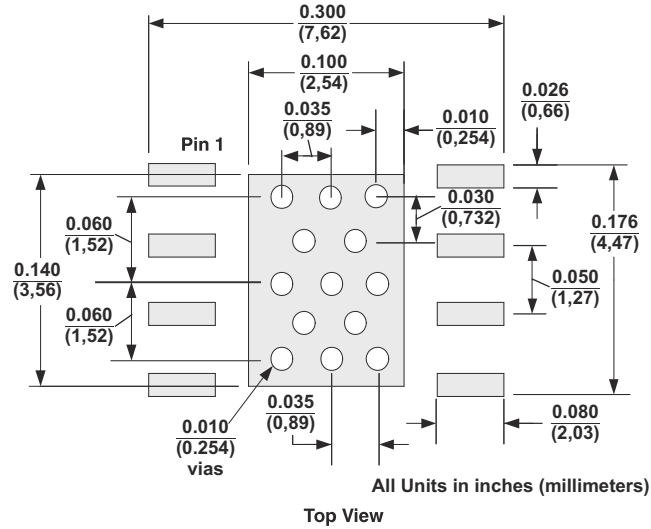

图 11-7. DDA PowerPAD PCB Etch and Via Pattern
1. PCB with a top-side etch pattern is shown in 图 11-7. There should be etch for the leads as well as etch for the thermal pad.